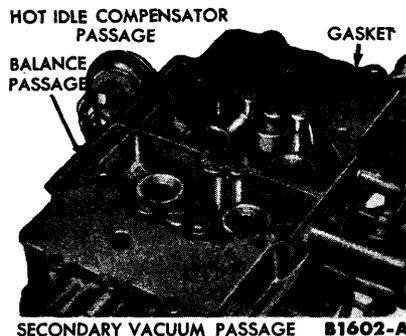

FIG. 19—Main Body Gasket
16. Position the air horn gasket on the main body (Fig. 19). Position the air horn on the main body so that the choke plate rod fits into the clevis on the choke housing lever. Install the air horn retaining screws.